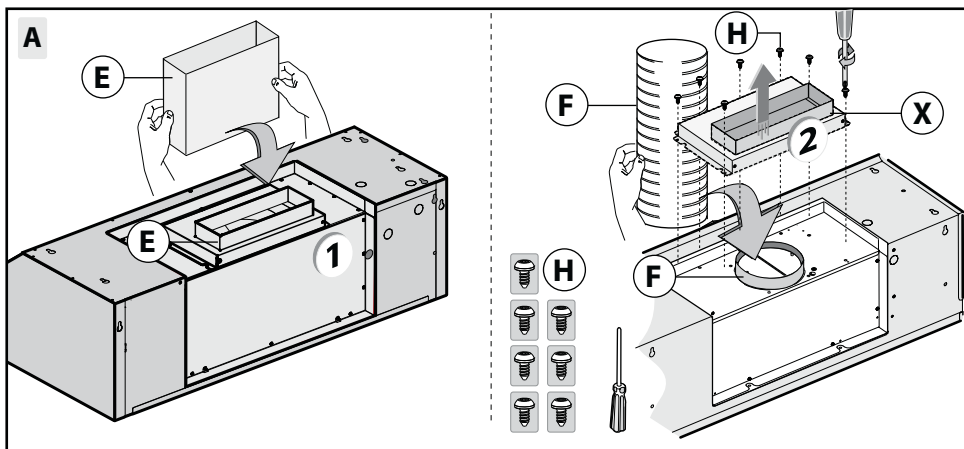

Fig.3
- **Version with air evacuation hole in the upper part of the hood (Fig.3):**